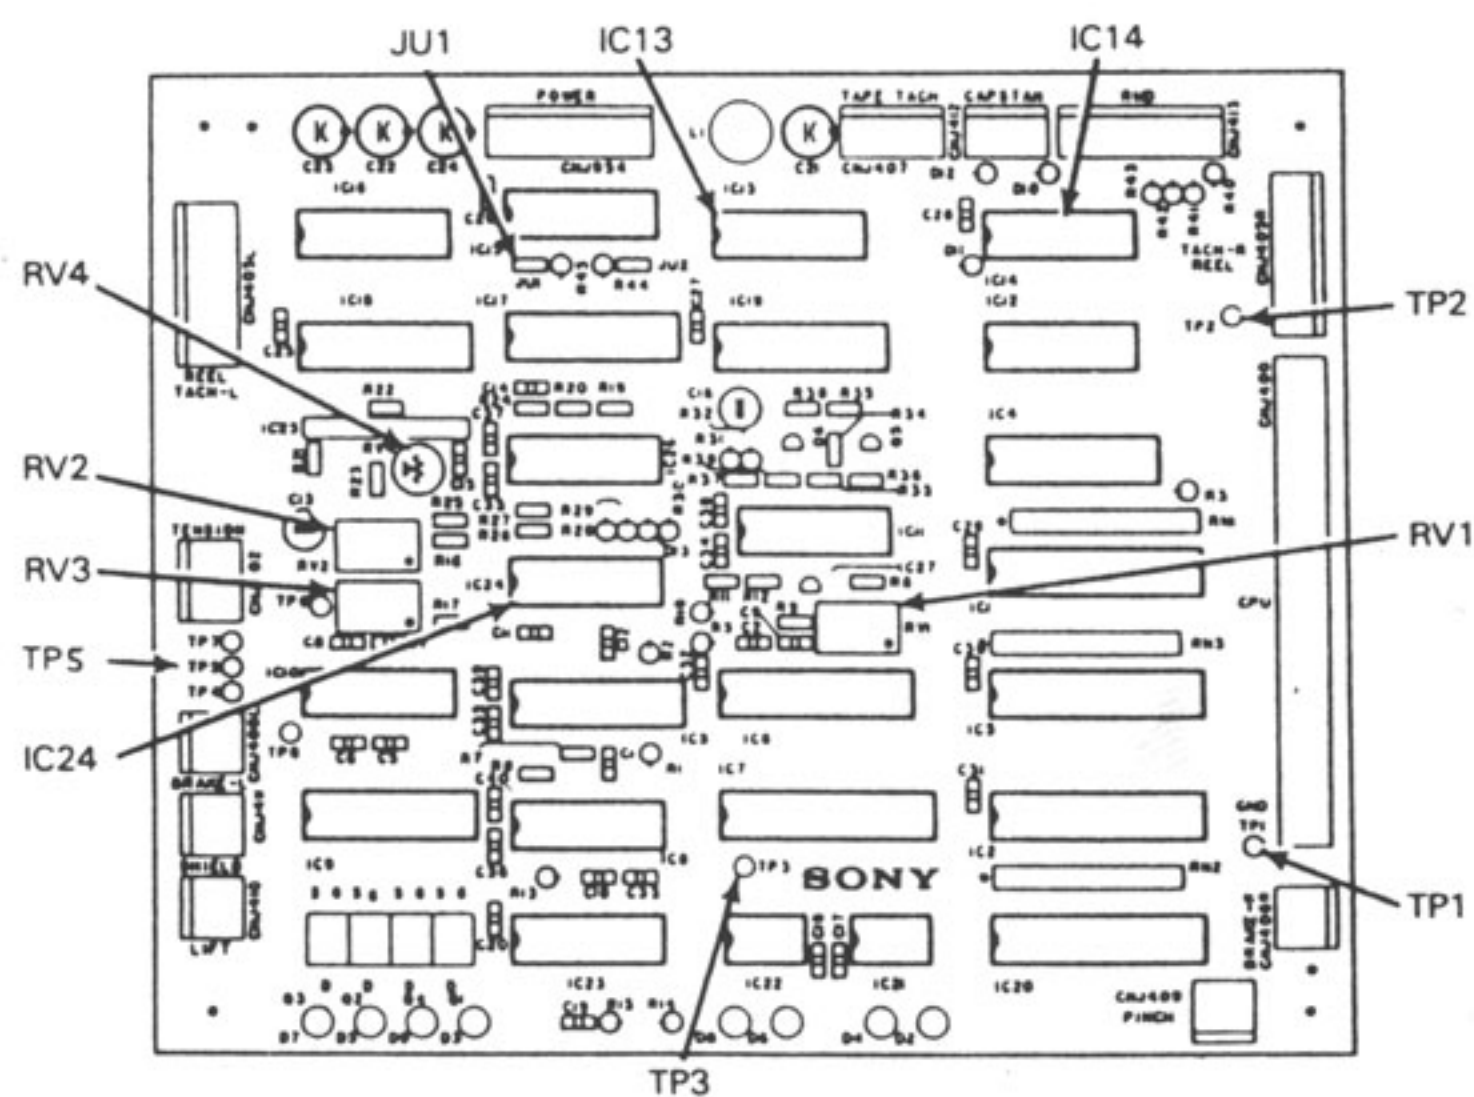

Figure 7-10. TIB Board
- STEP 3.** Connect the negative lead of the DVM to TP1, and the positive lead to TP5 on the TIB board (Figure 7-10).